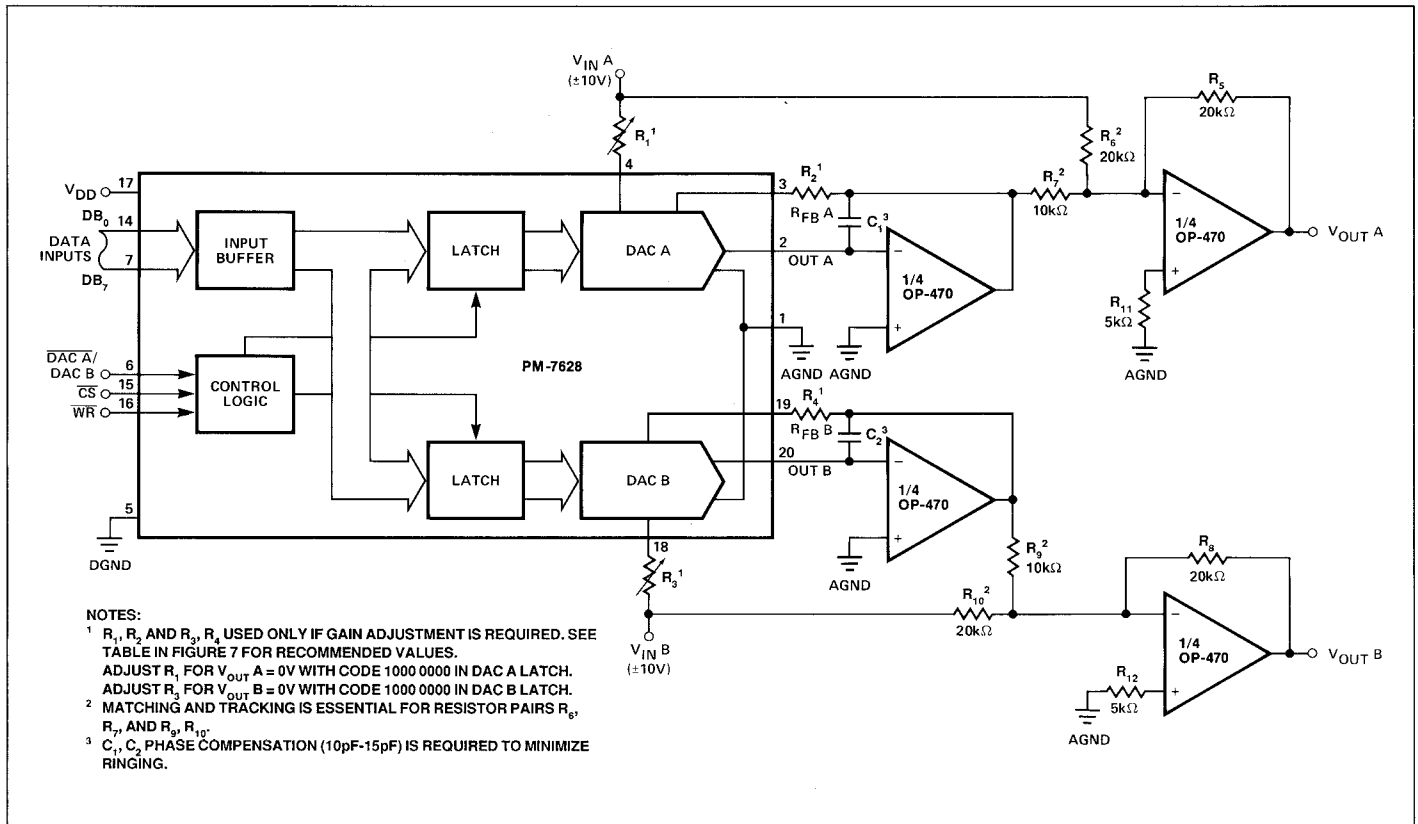

FIGURE 8: Dual DAC Bipolar Operation (4 Quadrant Multiplication). See Table 2.
For bipolar output operation, connect the PM-7628 as shown in Figure 8. This circuit configuration provides an offset current, derived from the reference, to enable the output op amp to swing in both polarities. The digital input coding becomes offset binary. Table 2 provides some example analog outputs for various digital inputs (D). The transfer equation for bipolar operation is  $V_{OUT} = V_{IN} \times (D/128 - 1)$ , where D is the decimal value of the data bit inputs DB0 thru DB7. This circuit provides full four-quadrant multiplication, able to accept ± polarities on both inputs as well as the circuit output.
**TABLE 2:** Bipolar (Offset Binary) Code Table. See Figure 8.